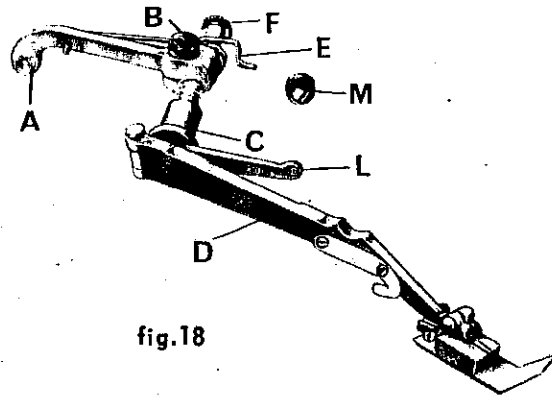

fig.18
e) Locking and adjusting presserfoot holder lever (fig. 18)